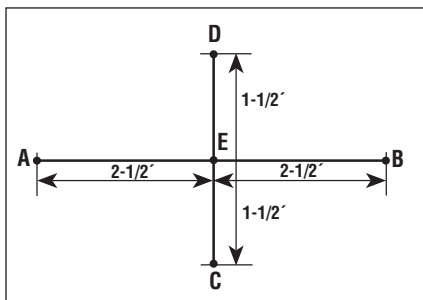

Fig. 1
1. First draw a straight line AB on the material and erect a perpendicular line CD through the center point E (Fig. 1).